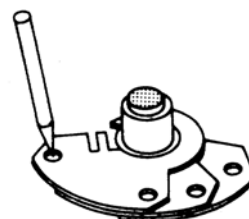

Fig. 3.4.2.2 a: Cam disc comprising 3 fan discs
- Operate actuator into the required position and note the direction of rotation for cam disc to be adjusted (figure 3.4.2.2 c)!
- Loosen knurled nut 3 (fig. 3.4.2.2 c), locking nut 4 must not be moved.